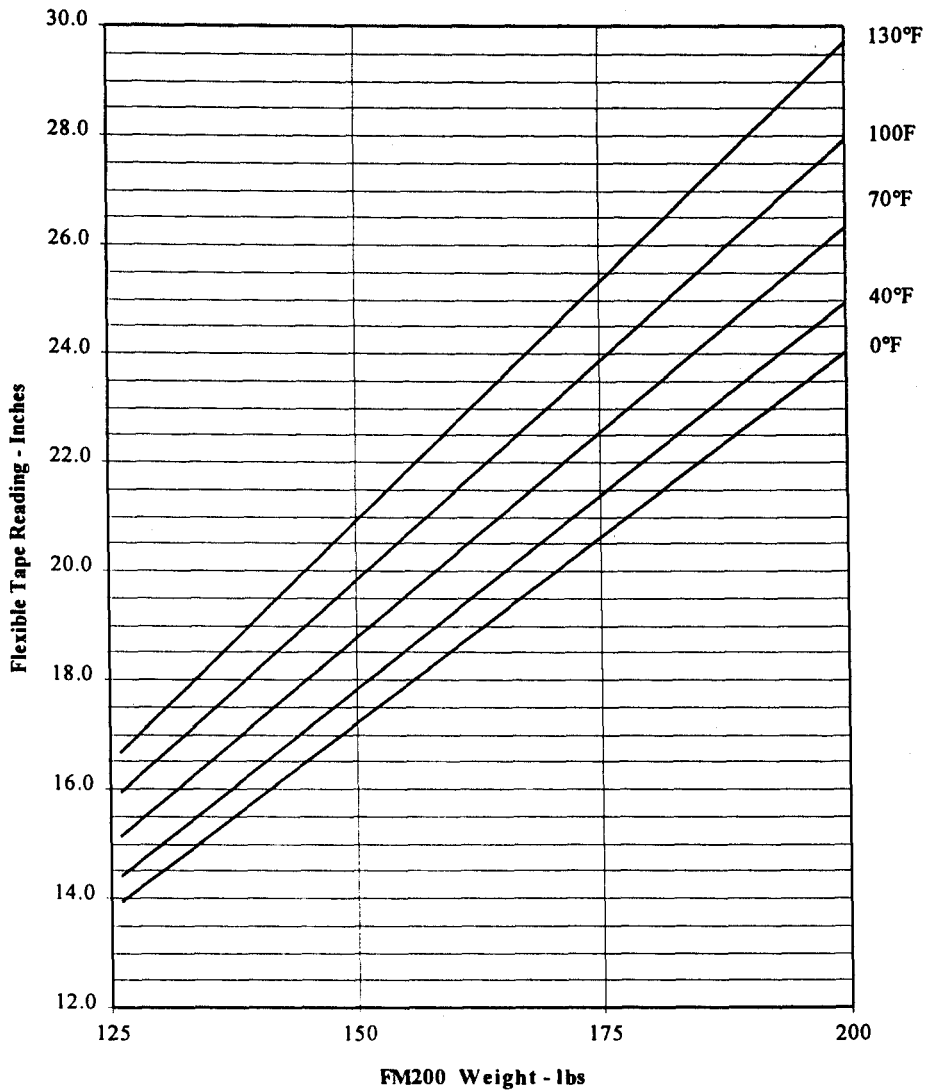

Figure 6.3.1 Calibration Chart, 200lb. Cylinder
7. Refer to the appropriate calibration charts (Figures 6.3.1, 6.3.2 and 6.3.3) and locate the level reading on the flexible tape scale. Trace horizontally to the right to the appropriate temperature plot. Read the weight of FM-200 from the scale at the bottom of the chart. Record the weight and date on the record tag attached to the cylinder.